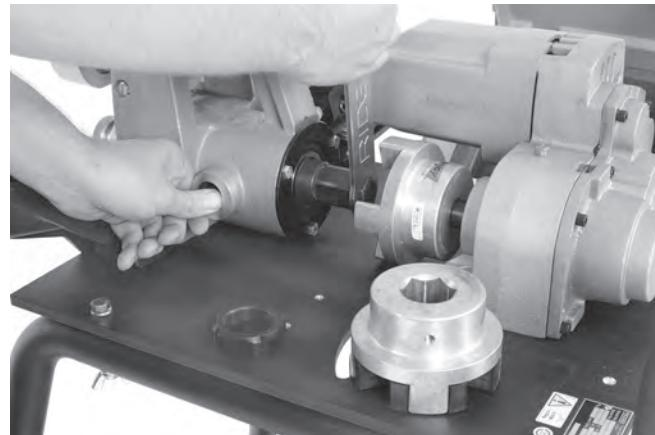

Figure 26 – Removing Draw Bolt
6. Use the $\frac{15}{16}$ " hex in the box wrench to loosen the draw bolt (Figure 26).